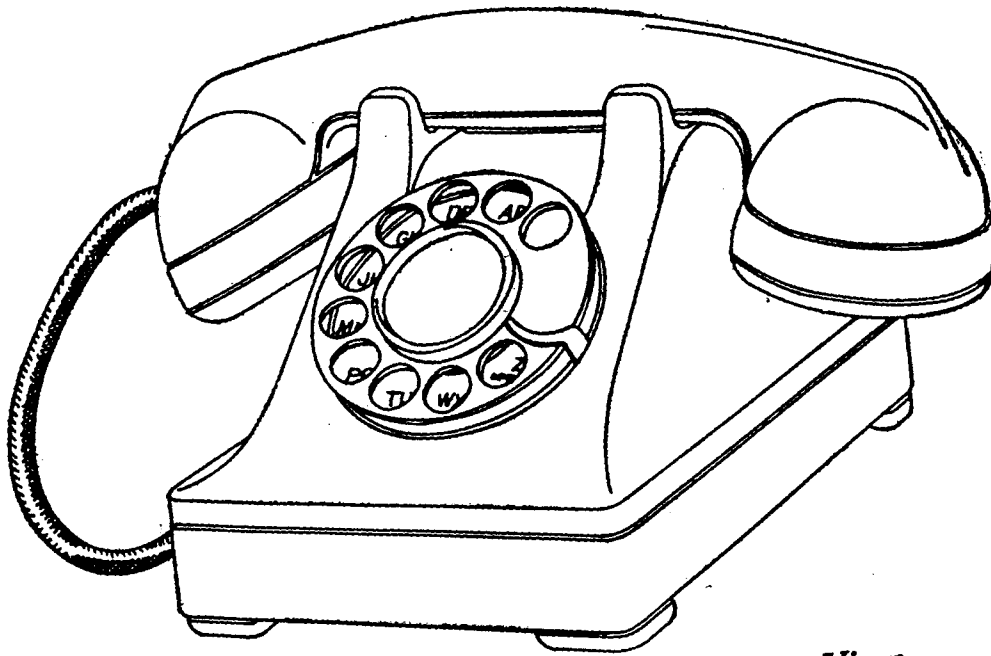

Fig. 1—Telephone Set, 302 Type—Front View
2.01 The 302-type telephone set shown in Figs. 1 and 2 is used at common battery antisidetone stations on non-polarized ringing lines of the following classes of service:
2.04 The 303-type telephone set is the same in external appearance as the 302 type shown in Figs. 1 and 2, but it is arranged for use at key stations of wiring plans on the 1A key telephone system where it is necessary to connect the ringing bridge and talking circuit to different lines. The set is equipped with a 4-conductor mounting cord, two of which are used for connecting the ringing circuit and the remaining two for connecting the talking circuit. The manual set is coded 303A and the dial sets 303B, 303C, and 303D.
2.05 The 304-type telephone set, the external appearance of which is the same as the 302 type shown in Figs. 1 and 2, is used in dial common battery central office areas on the tip-party station of message rate, automatic ticketing, and automatic message accounting. However, in addition to the dial sets, a manual 304A set equipped with an apparatus blank is provided for use at tip-party stations where cutover to dial message-rate service is contemplated. The dial sets are coded 304B, 304C, and 304D, and all sets are equipped with a 3-conductor mounting cord.